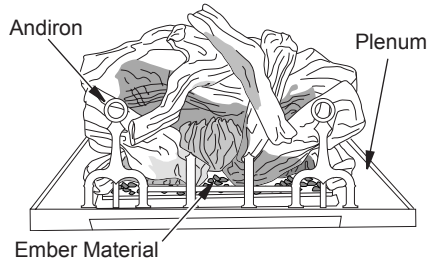

Figure 38 - Placing Ember Material on Burner
1. Pull ember material apart into pieces no larger than a dime. Place these pieces loosely and sparingly directly onto exposed front section of burner (see Figure 38). This will create the glowing ember appearance as flame touches ember material. Do not block air slots by using too much ember material in one area. do not block pilot ports with embers. It is not necessary to use all of the ember material provided.